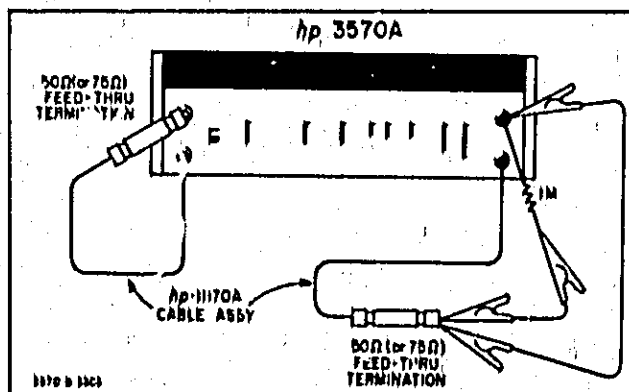

Figure 5-1. Input Impedance Check.
a. Connect the A and B Outputs, terminated in 50-ohm (or 75-ohm) loads, to the A and B Inputs. This is the same input configuration used for the Front Panel Zero Adjustments (see Figure 5-1).
h. Insert the $1\text{ M}\Omega$ resistor between the terminated Channel B OUTPUT and Channel B INPUT as shown in Figure 5-1.